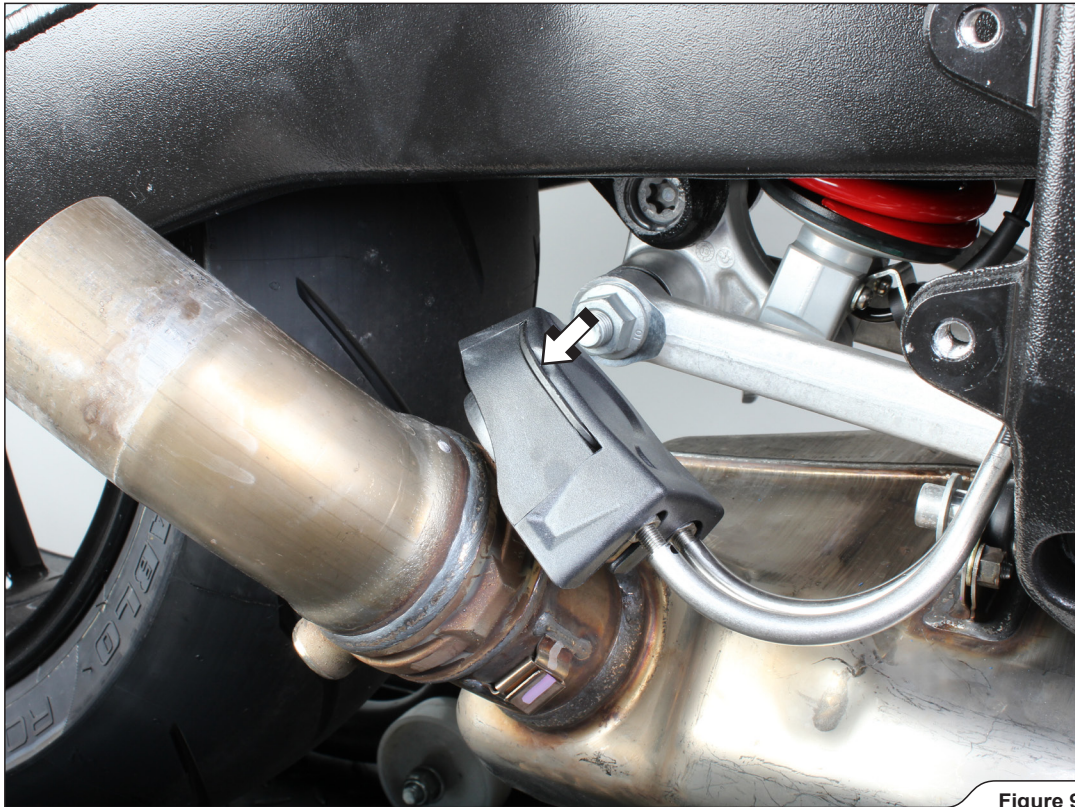

Figure 9
9. Undo the spring clip, remove the exhaust valve's cover, unscrew the marked cables' nuts and remove the cables off the valve (**Figure 9, 10**).